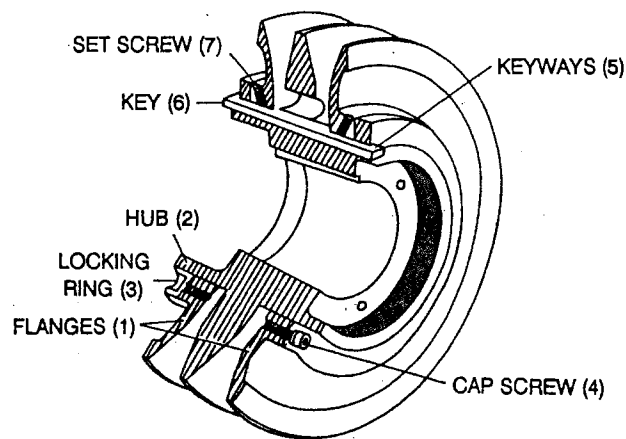

FIG. 35 – LOCKING RING VARIABLE SPEED SHEAVE
This type of sheave consists of two flanges (1) fitted on a threaded hub (2). (In the two-groove sheave this threaded hub is a combined hub and center flange, as shown in Figure 35 where as in the single flange sheave there is no center flange.)